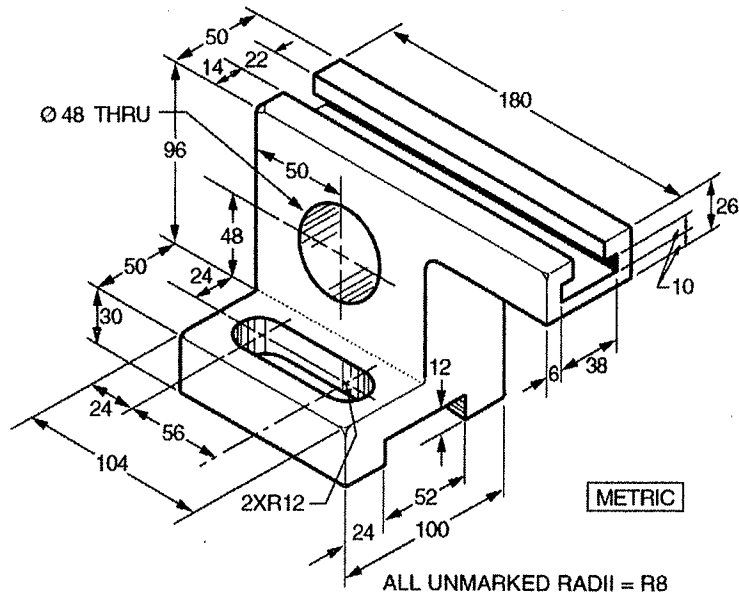

Fig.01
- e. Following part shown in Fig.01 is to be machined using a milling machine. Give the necessary setup details, tools used and the operations to be performed using the milling machine. (5 mark)